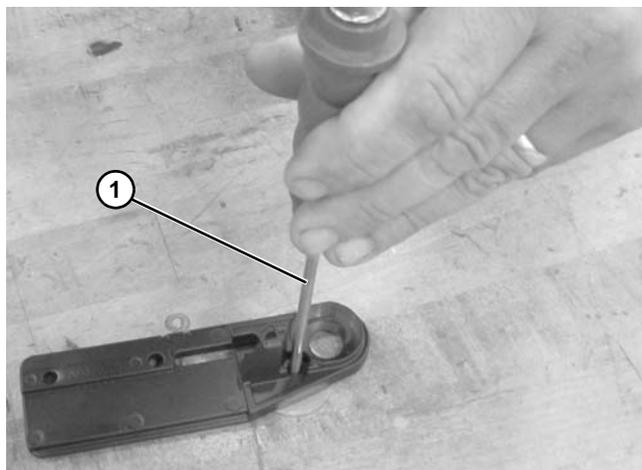

Figure 92
4. Repeat the same operation to knockout (**Figure 93, item 1**) for alignment screw hole using 1/8" - 3/16" punch (**Figure 92, item 1**) or M5 - M6 bolt.